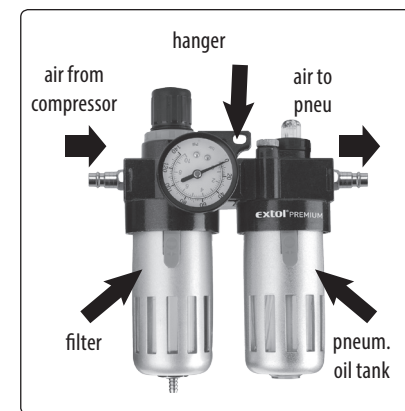

Fig. 10, description of the treatment unit Extol® 8865105
2. At the inlet to the treatment unit connect the air hose from the compressor. At the air outlet from the treatment unit, connect the air hose and connect it to the air inlet on the sander, see fig. 10.